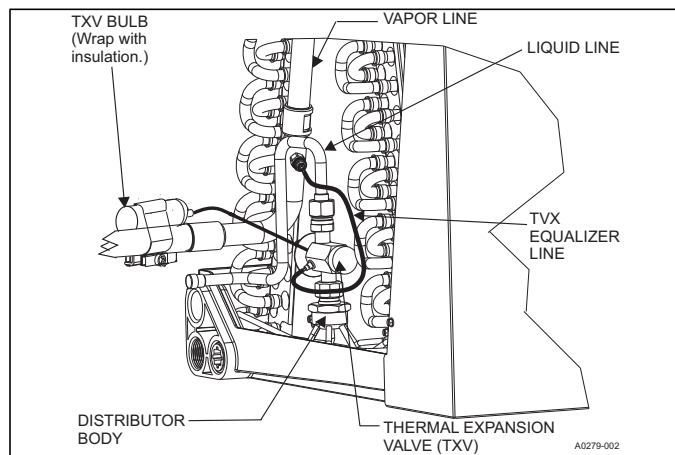

FIGURE 7: TXV Bulb and Equalizer Line Installations
- Install the TXV equalizer line onto the vapor line by hand tightening the 1/4" SAE coupling nut to the equalizer fitting, and apply an additional 1/3 turn to seal. See Figure 7.
8. Install the TXV bulb to the vapor line near the cabinet, using the bulb clamp(s) furnished with the TXV assembly. Ensure the bulb is making maximum contact. See Figures 7, 8 & 9, and accomplish the following: